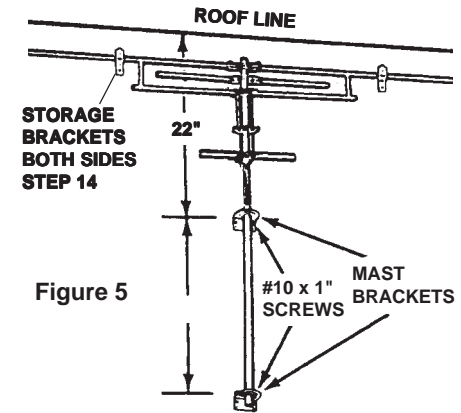

Figure 5
STEP 12. Mount mast bracket 22" below roof line. Use two (2) #10 x 1" sheet metal screws provided in hardware bag. See Figure 5. Mount bottom bracket 18" below top mast bracket, making sure brackets line up vertically. See Figure 5.
Remove locking bolt and wing nut from hole in center of mast, slide antenna up thru brackets until hole at bottom of mast is just above bottom mast bracket and insert locking bolt and secure with wing nut. See Figure 5.